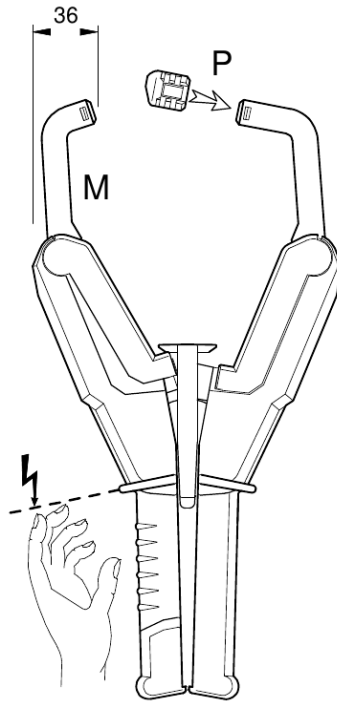

Figure 2.48: Protection against electric shock and short-circuit
- Use safety cover 'P' Figure 2.48 [→47] for protection against short-circuits during clamping!